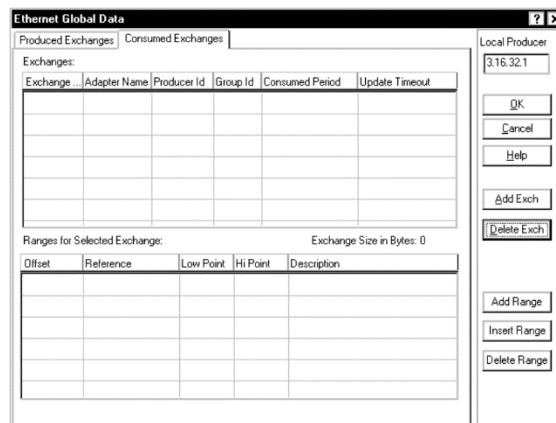

Figure 55: Consumed Exchanges Tab of CPU Configuration
- Select the Consumed Exchanges tab (Figure 55) since the ENIU's Produced exchange becomes the CPU364's Consumed exchange.